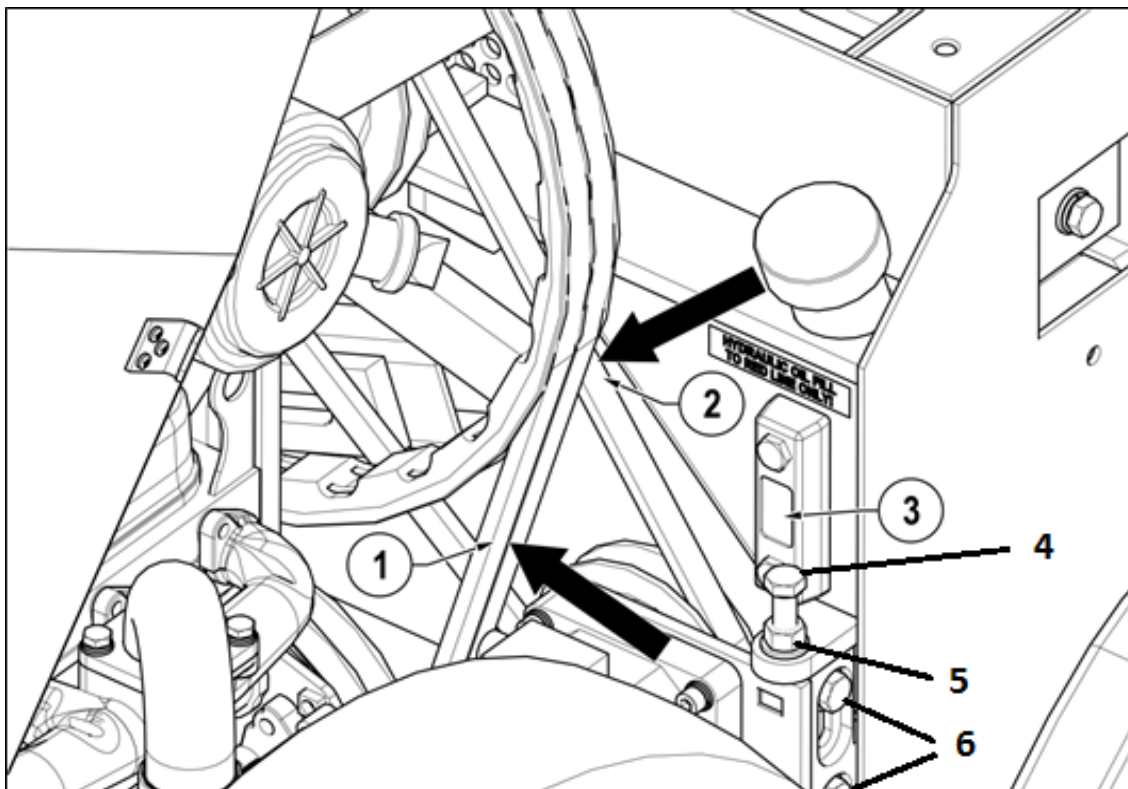

Figure 17
All drive belts are located under the engine cover as shown in Figure 12 and Figure 13 and tension checked at arrows shown in Figure 17. Check and set tension as follows:
1. Slacken clamp screw(s) or nut (6).
2. Hydraulic pump adjuster screw requires its lock nut to be slackened (5).
3. Turn adjuster nut or screw (4) to tension belt until 4.5Kg force at the belt longest centre span deflects by 6mm (see Figure 17). Can be approximated by firmly gripping belt between finger and thumb and twisting. The belt should not be able to be rotated more than 90°.